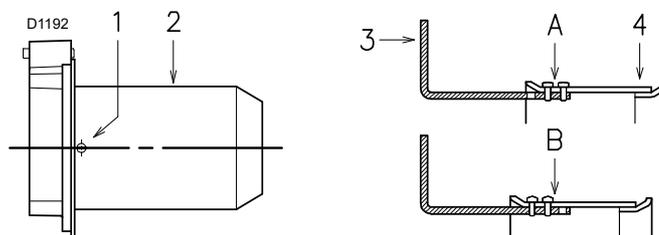

Fig. 13
- Loosen the screws 1)(Fig. 13) and disassemble the blast tube 2).
- Move the rod 3)(Fig. 13) from position A to position B, thereby drawing back the shutter 4).
- Reassemble the blast tube 2)(Fig. 13) and the screws 1).